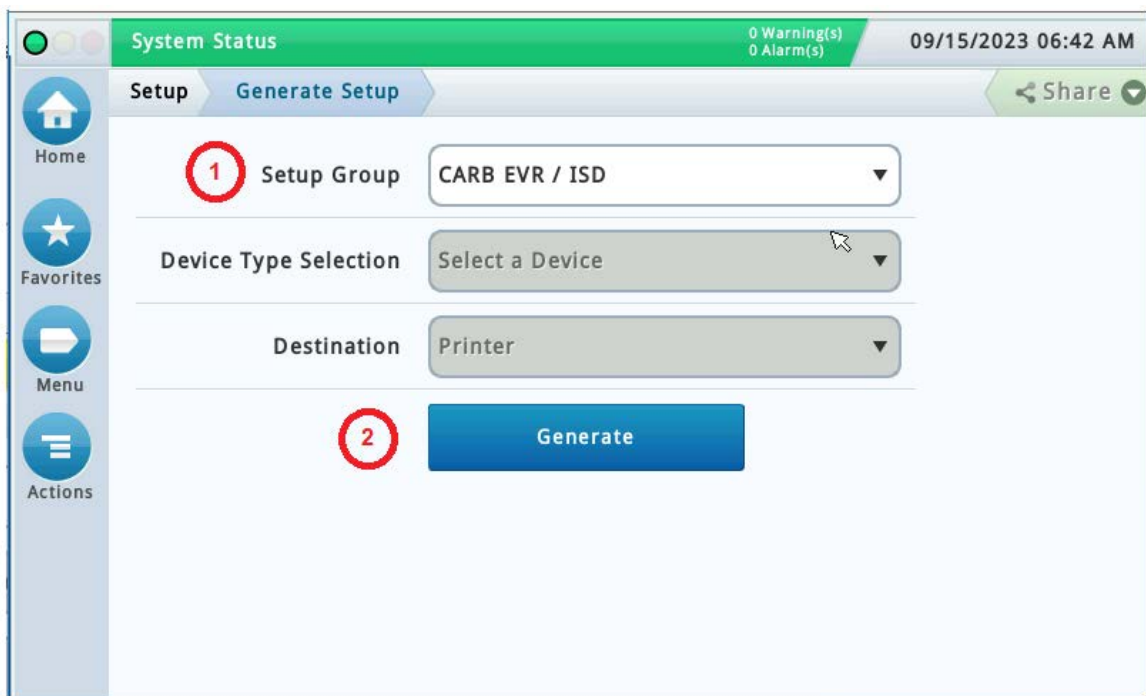

Figure 48. Generate Setup Screen
1. Via **Menu > Setup > Generate Setup**, select the Setup Group option of "**CARB EVR / ISD**" (see Figure 48)